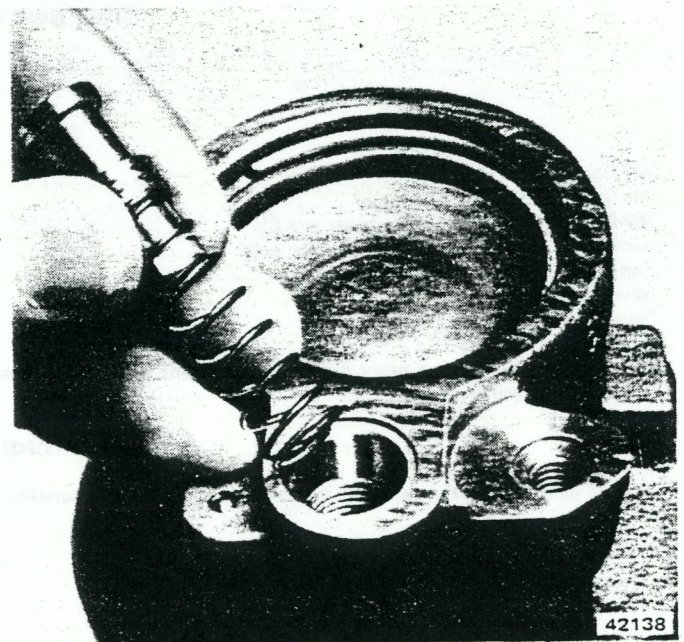

Fig. 2L-62 Flow Control Valve and Spring Installation
(18) Install mounting stud O-ring seals in pump body counterbores (fig. 2L-56). Lubricate O-rings with petroleum jelly before installation.
(19) Lubricate reservoir O-ring seal with petroleum jelly and install seal in pump body seal groove.